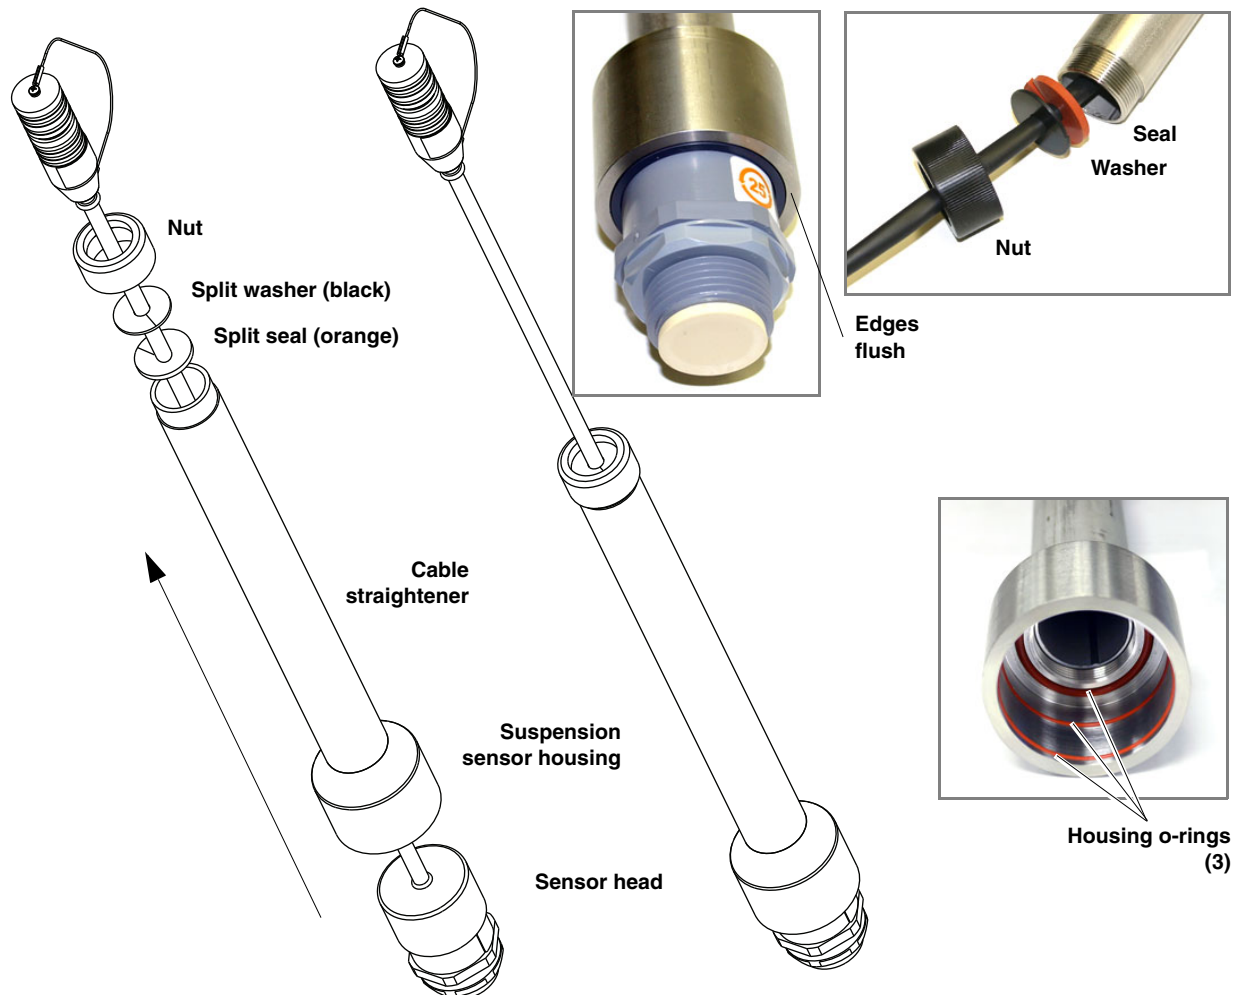

Figure 2-6 Sensor installation: Suspension
2. Push the sensor head into the housing until fully inserted (may require slight twisting motions). The edges of the sensor cap and the housing should be flush (Figure 2-6).
3. Push the connector through the nylon nut. Put the washer and seal on the cable with the splits oriented away from each other (Figure 2-6), and screw the nut down over them onto the tube.
The black washer (Figure 2-6) is made of rigid plastic. Take care not to damage the cable (or your fingers) while putting it on.
If the sensor requires excessive effort to install in the housing, remove it and ensure that the three rubber o-rings inside the housing are all properly seated in their respective grooves (Figure 2-6).